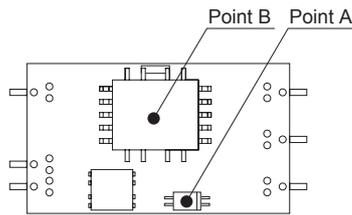

Fig.7.5 Temperature Measuring Points in the case of Forced Air Cooling
① SU6
■ In the case of forced air cooling (1m/s), please have sufficient ventilation to keep the temperature of point A in Fig.7.5 at 95°C or below and that of Point B at 115°C or below.